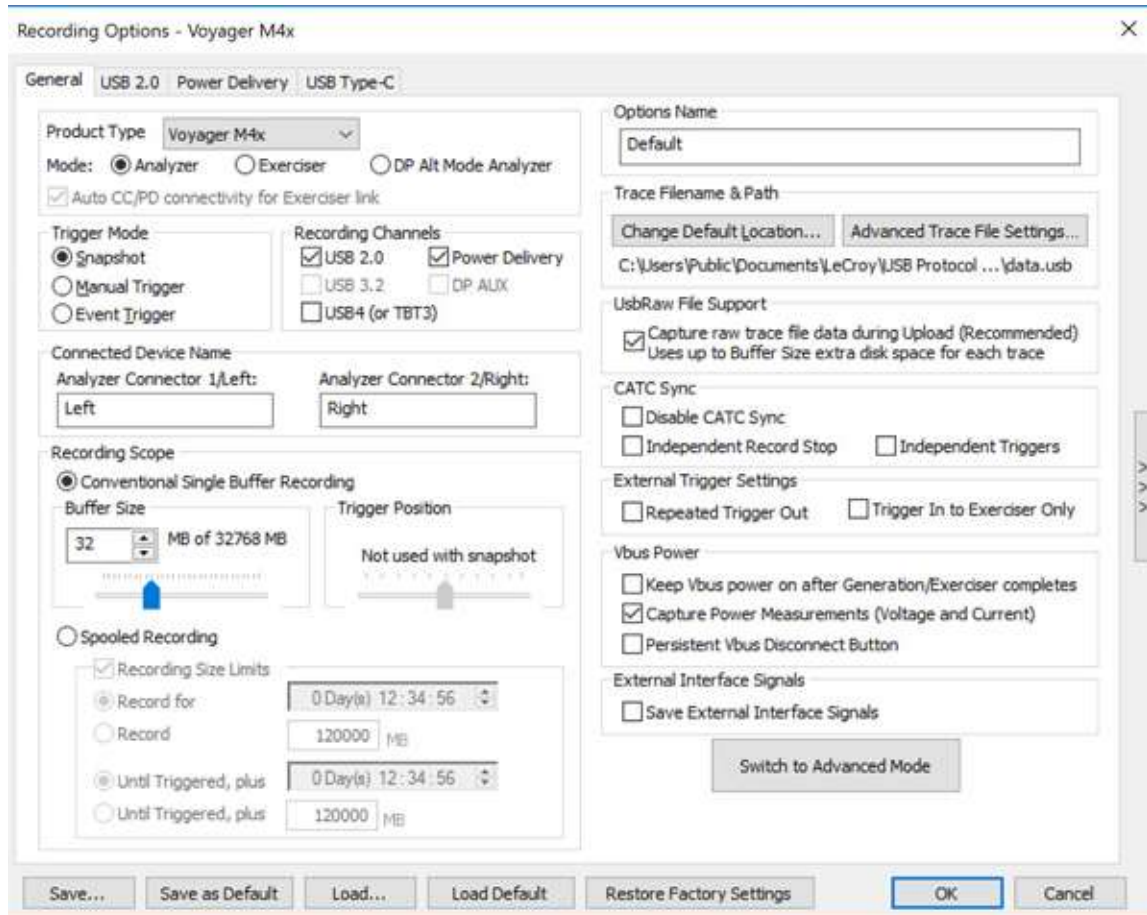

Figure 3.52: Recording Options - Voyager Dialog.
3. Select the **General** tab to display a dialog box showing factory default settings, such as Snapshot and 4 MB buffer size (see Figure 3.52 on page 165). For the first recording, you can leave these settings unchanged. Under Recording Channels, select **2.0** to record USB 2.0 traffic.